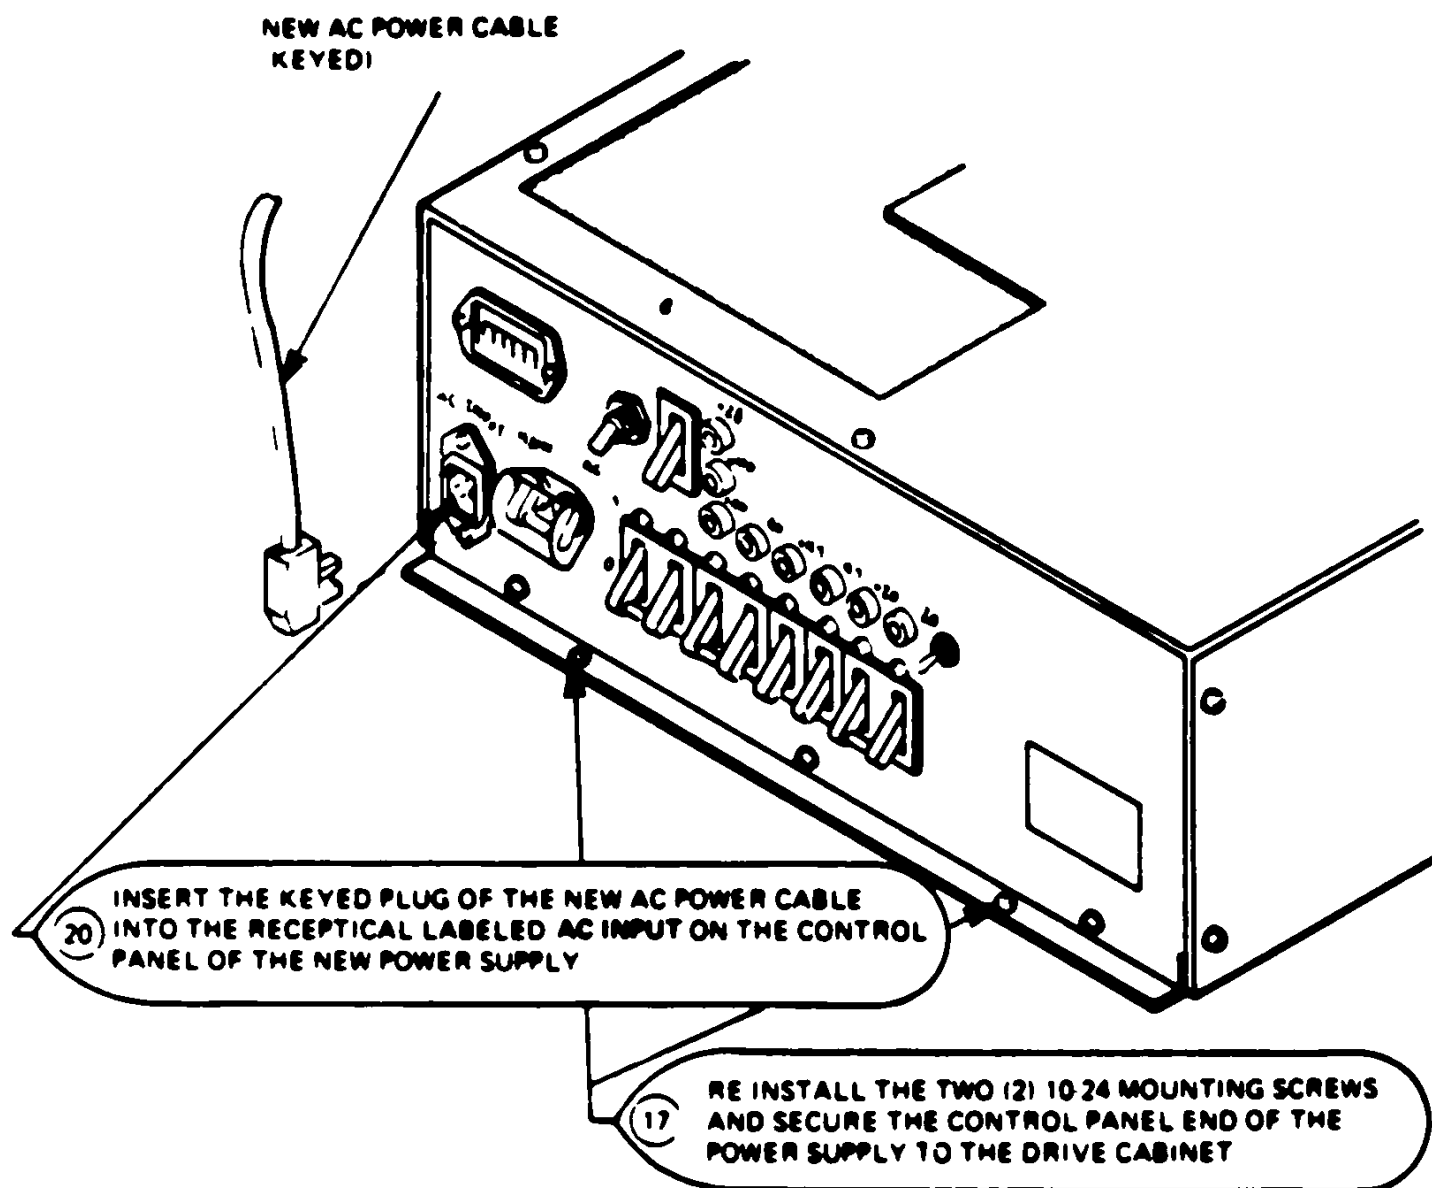

FIGURE 9 VDE RM05 POWER SUPPLY CONTROL PANEL
20. Insert the keyed plug of the new AC power cable into the receptacle labeled AC INPUT on the control panel of the new power supply. (See Figure 9)